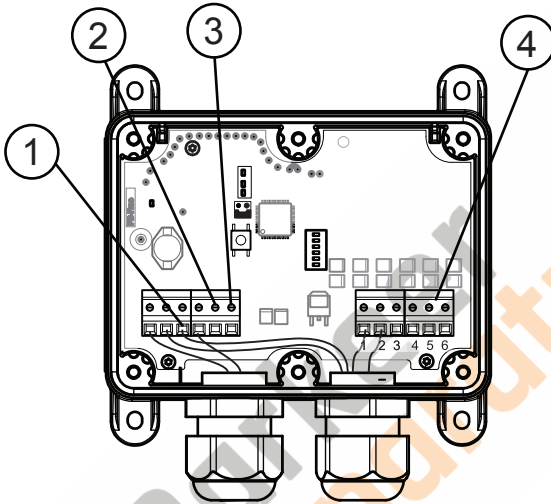

Figure 5. Sesam 800 RXM 12/24 V DC to Forestry winch without cable
- 12/24 V DC Power connection (see ② in Figure 5).
- Ground, 0V (-) (see ① in Figure 5).